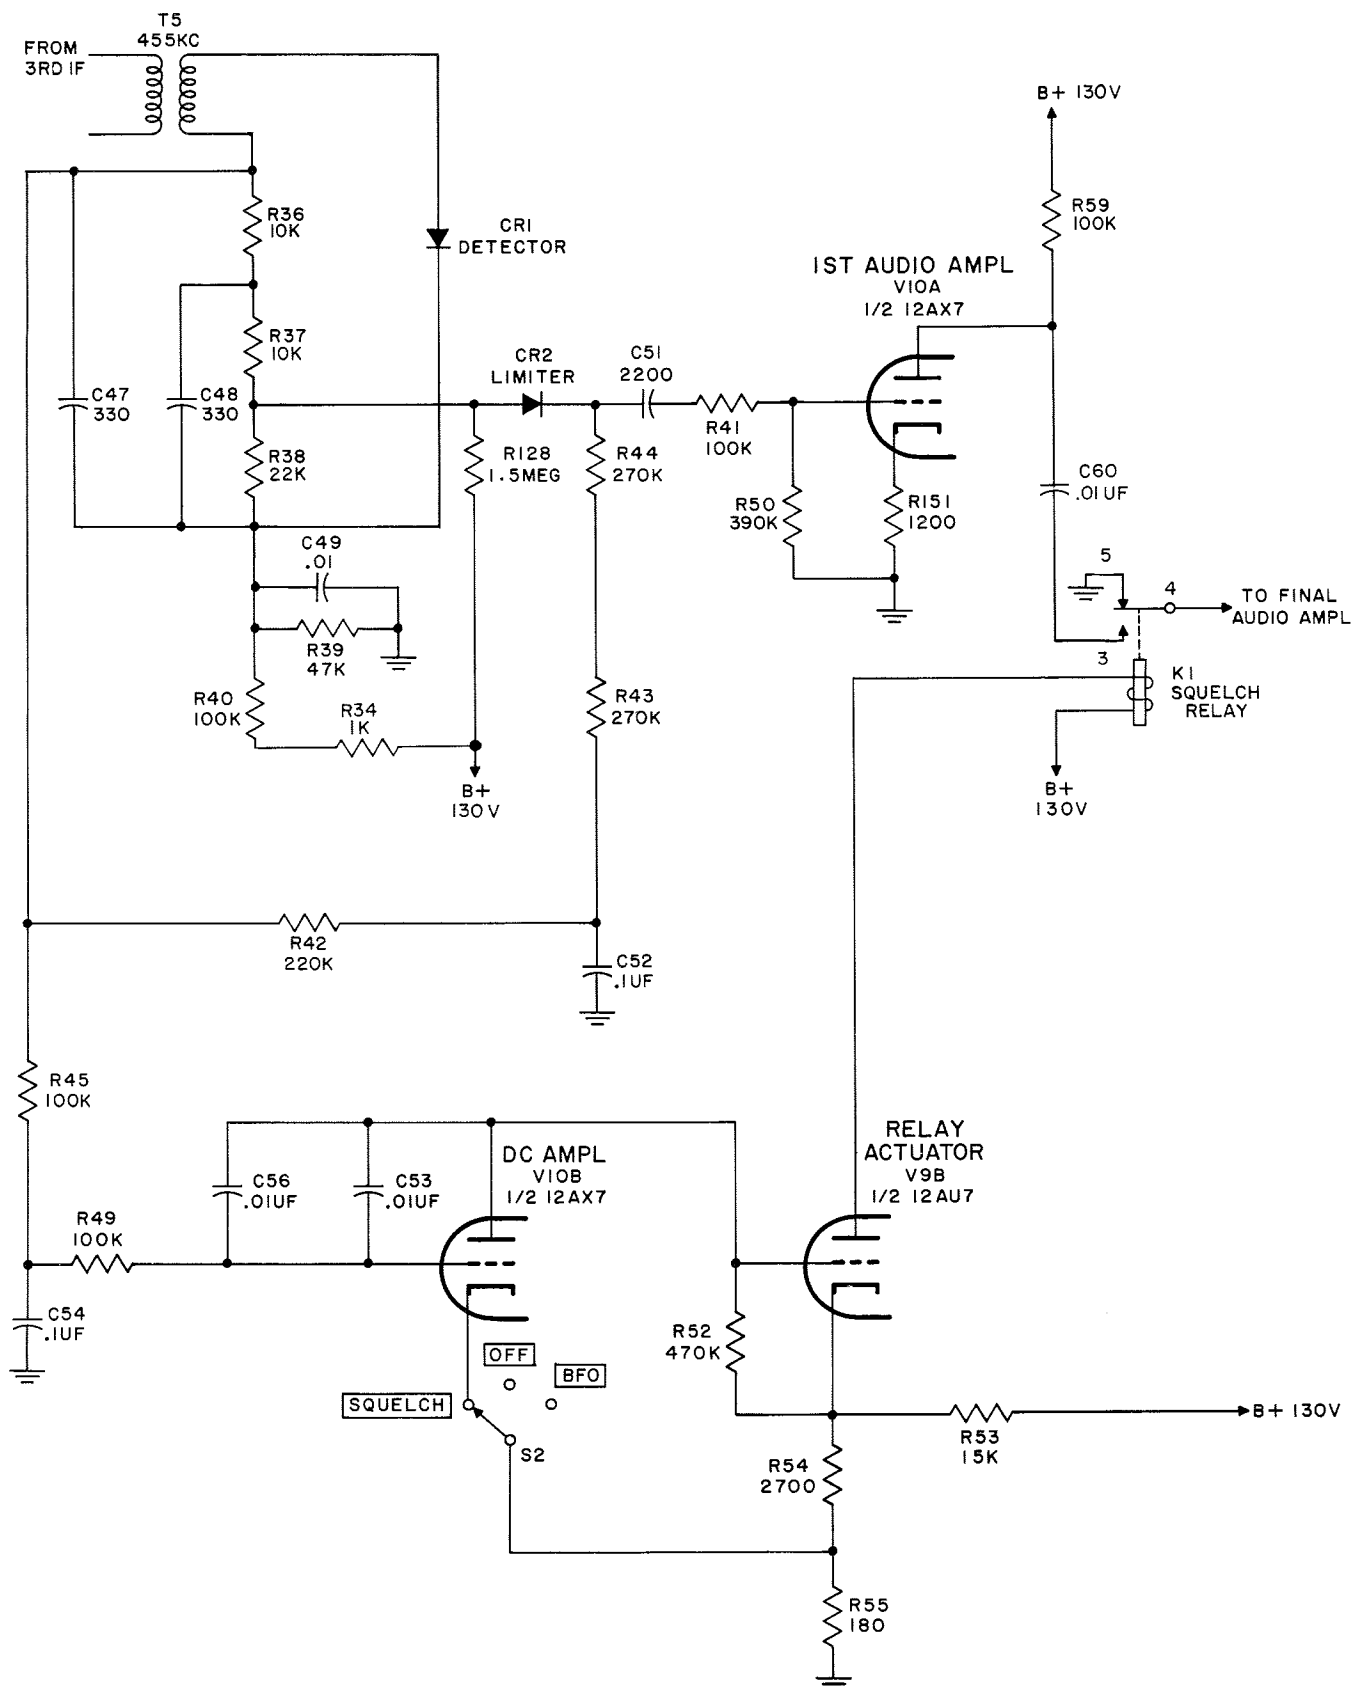

Figure 4-6. Simplified Schematic Diagram, Detector Limiter, First Audio Amplifier and Squelch Circuit
4. 2. 7 AUDIO AMPLIFIERS. (See figures 4-6 and 4-7.)
The detected and limited signal is applied to the grid of V10A, the first audio amplifier. See figure 4-6. The amplified signal is taken from the plate and coupled through C60 to V11, the final audio amplifier. The AF GAIN control, R62, is located in the grid of V11. T2, the audio transformer is provided with taps led to the output jack, J3, to permit either 4-ohm or 600-ohm output. The 600 ohm is taken across pins 1 and 2 and the 4 ohm across pins 3 and 4.
4. 2. 8 SQUELCH UNIT. (See figure 4-6.)